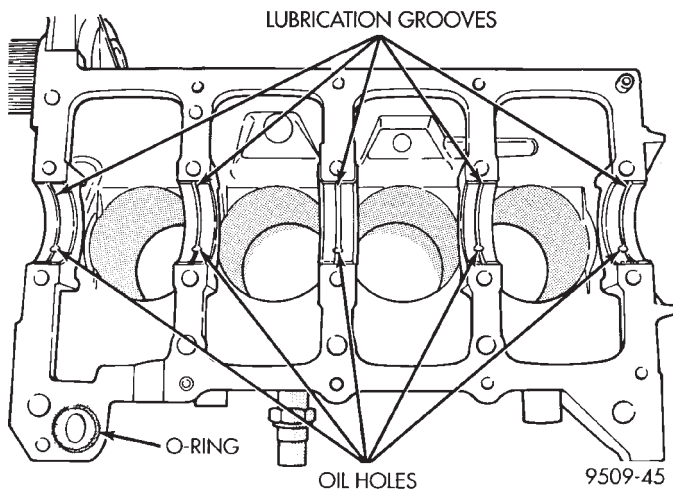

Fig. 65 Installing Main Bearing Upper Shell
(1) Install the main bearing shells with the lubrication groove in the cylinder block. Install O-ring into recess in the block (Fig. 65).
(2) Make certain oil holes in block line up with oil hole in bearings and bearing tabs seat in the block tab slots.